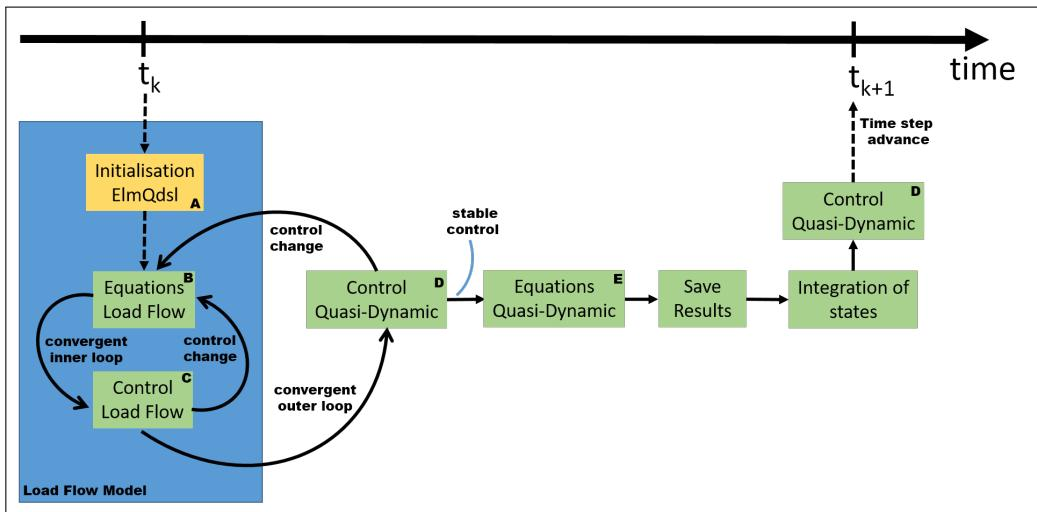

Figure 28.5.2: *QDSL models* - Simulation Procedure
The simulation procedure of a *QDSL model* that includes time-dependent state variables is shown in Figure 28.5.2. Here, the time advance from a generic discrete absolute time point ( $t_k$ ) to the next time point ( $t_{k+1}$ ) is exemplified, with  $t_{k+1}$  depending on  $t_k$  and the parameter *Step* provided in the *Basic Options* page:
With reference to Figure 28.5.2, within a *QDSL model* the following blocks of user defined code may be programmed in the *QDSL type*:
- With reference to the algorithm flow (see Figure 28.5.2), the script may be executed multiple times until a steady state condition is reached within the Quasi-Dynamic loop (defined by transitions “control change”, “convergent inner loop” and “convergent outer loop”). The script is run once more at the end of the time step iteration, after the results have been saved for time  $t_k$  and the integration has been performed for time  $t_k + 1$  for the purpose of limiting the newly integrated state variables, thereby ensuring feasible conditions for the next time step;